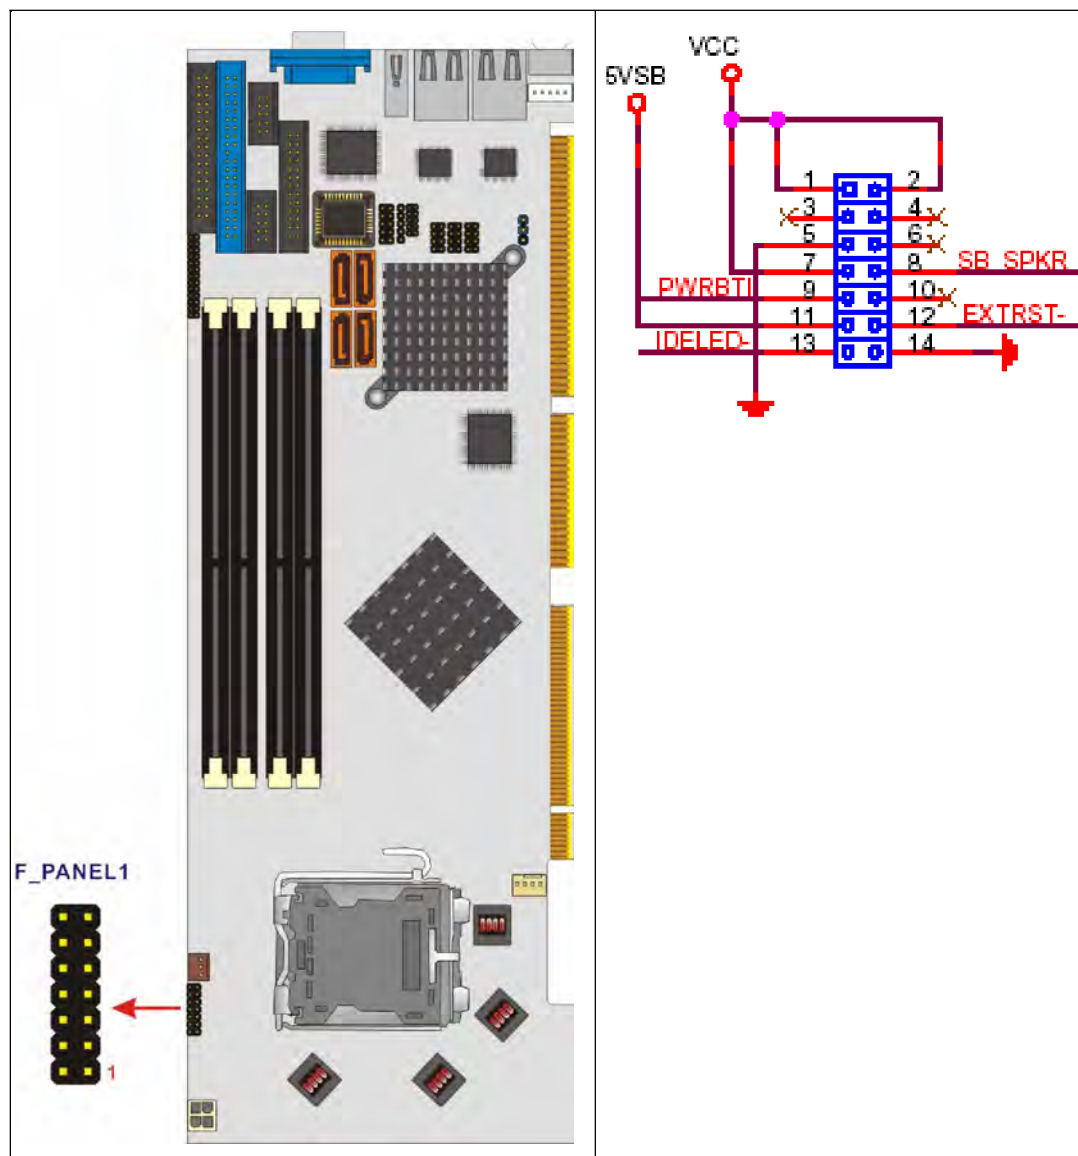

Figure 3-9: Front Panel Connector Location
**CN Location:** See **Figure 3-9**